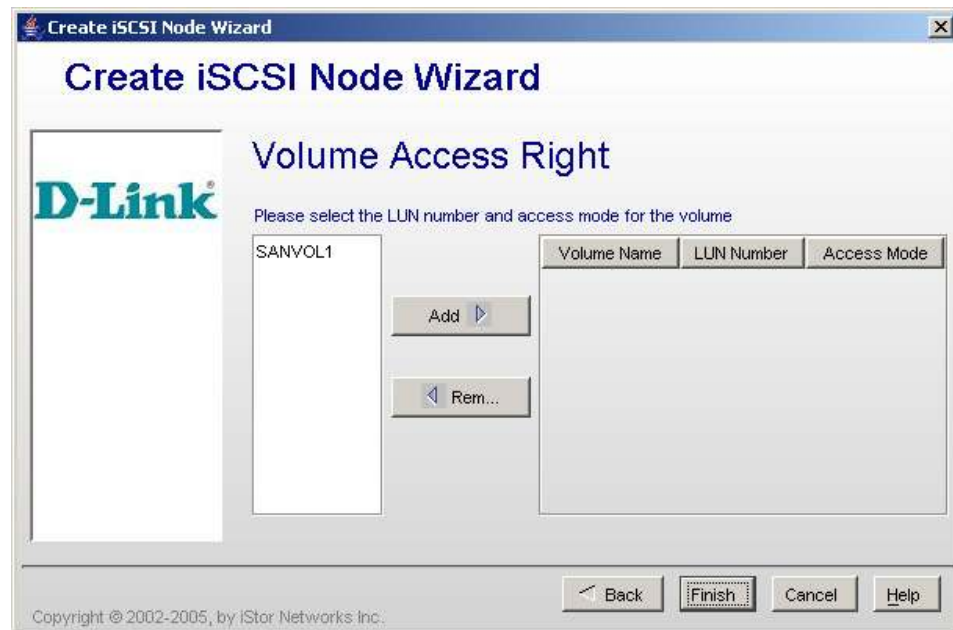

Figure 5-32. Create iSCSI Node Wizard – Volume Access Right Screen
10. Click **Next**. The Volume Access Right screen appears (see Figure 5-32).